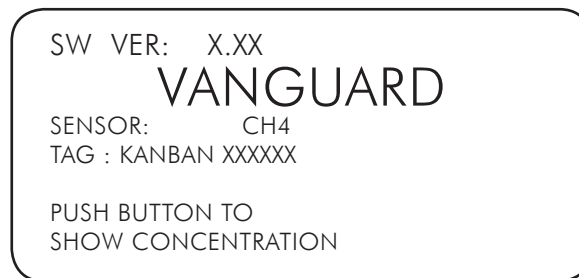

Figure 8
- Once activation is done, the front panel display will display the device name, HART long tag, and the software version, along with an instruction to push button to show gas concentration (see Figure 8).
9. Once the sensor initialization process is complete, a "Sensor Active Calibrate New Sensors" message will show (see Figure 14) before automatically returning to home screen (Figure 8).